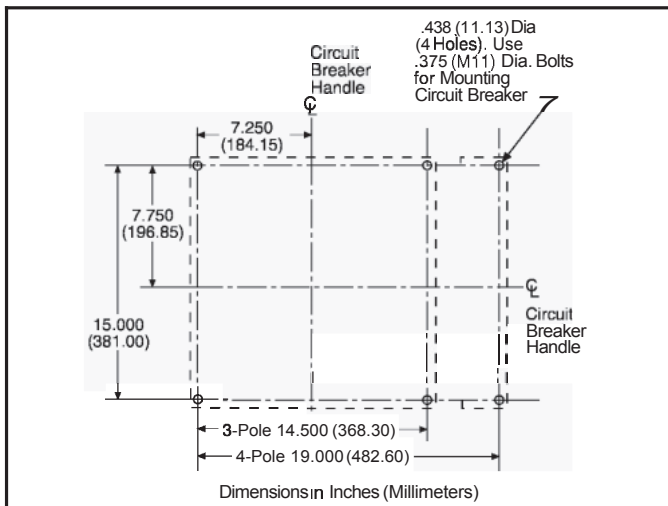
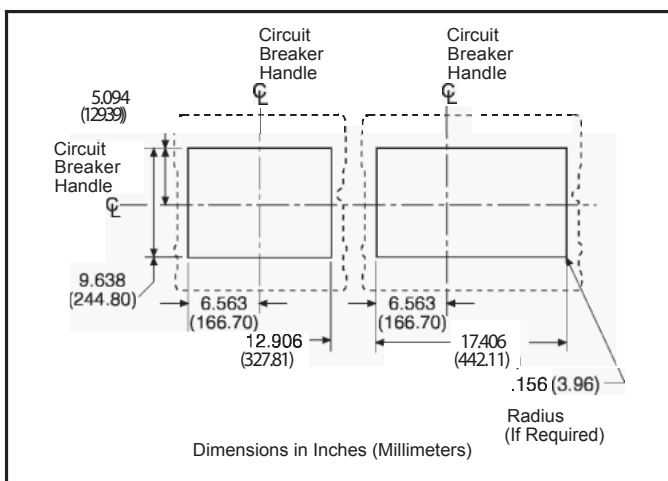

Fig. 2-3 Circuit Breaker Mounting Bolt Drilling Plans
Fig. 2-4 Circuit Breaker Escutcheon Dimensions for 3 and 4-Pole Circuit Breakers
- a. For individual surface mounting, drill mounting panel using the drilling plan shown in Fig. 2-3. For dead-front cover applications, cut out cover to correct escutcheon dimensions, see Fig. 2-4.